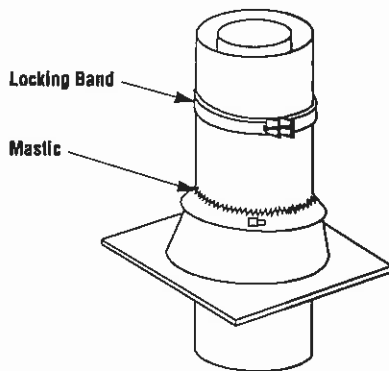

Figure 30
Step 8. The standard FireCraft FTF10 roof flashing assemblies include a storm collar. Slide the storm collar over outer chimney, rest on flashing spacers and align with top surface of flashing. Insert lab in slot, pull tight and bend tab back over slot. Seal storm collar to outer chimney with roof caulking or mastic around entire circumference of pipe. Also add extra roof caulking to the lab/slot area to seal completely against water penetration (Figure 30). Check all joints very carefully to ensure no water intrusion can take place.
Use the nut provided and TIGHTEN snugly. Do not overtighten as this might damage the chimney section (refer to Figure 30).